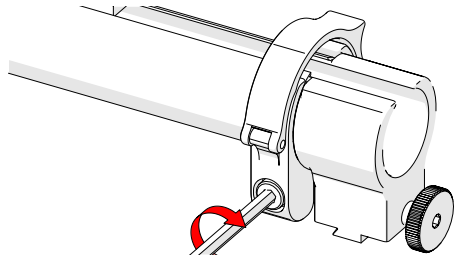

Fig. 75 - Tighten clamp screw
4. Tighten the clamp screw (*Fig. 75*).